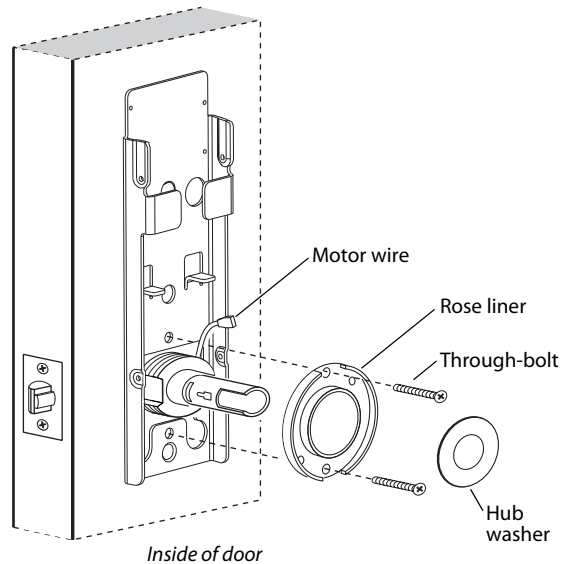

Figure 13 Installing the through-bolts and rose liner (9K shown)
- 1 Place the inside rose liner on the chassis, aligning the holes in the rose liner with the holes prepared in the door, as shown in Figure 13.